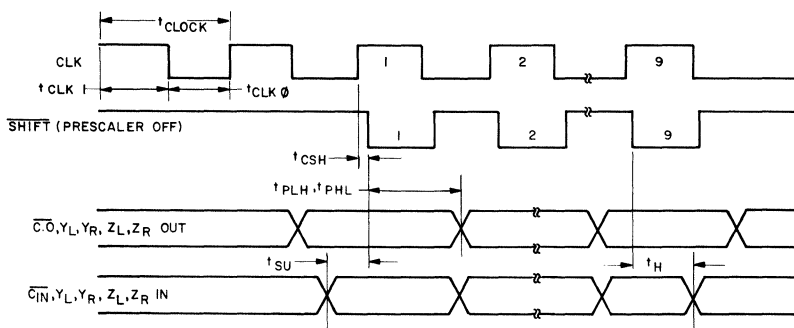

Fig. 7 - Operation timing diagram.
**DYNAMIC ELECTRICAL CHARACTERISTICS** at  $T_A = -40$  to  $+85^\circ\text{C}$ ,  $V_{DD} \pm 5\%$ ,  $t_r, t_f = 20\text{ ns}$ ,  $V_{IH} = 0.7 V_{DD}$ ,  $V_{IL} = 0.3 V_{DD}$ ,  $C_L = 100\text{ pF}$  (See Fig. 7)